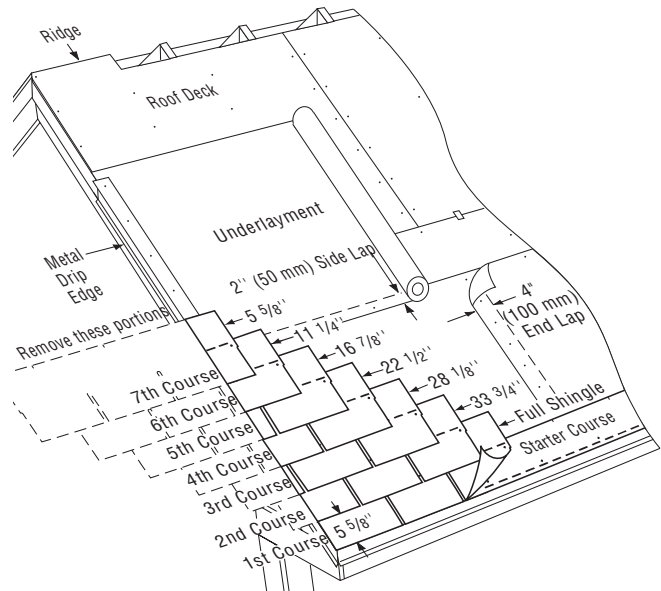

Figure 12-14: Applying the first 7 courses on a standard slope.
**1ST COURSE:** Apply a full shingle at the lower left corner of the roof. Make tabs lie flush with the edges of the starter course. In this way, sealant on the starter strip will adhere to the first-course tabs and help keep them from lifting in high winds (Figure 12-14).
1. Cut 55/8" off the left side of a shingle and install this 333/4" piece over and above the first-course shingle, in line with the left edge of the starter course (Figure 12-14).
2. Cut 111/4" off the first shingle of the third course, 167/8" off the first shingle of the fourth course, 221/2" off the first shingle on the fifth course, 281/8" off the first shingle of the sixth course, and 333/4" off the first shingle of the seventh course. Apply each with its left edge in line with the previous course (Figure 12-14).